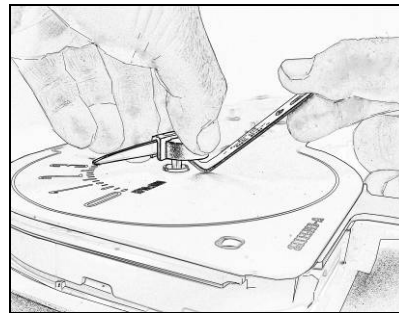

Figure 8
- C. To use the Tool properly; keep the pointer level with one hand then push down on the opposite end of the remover tool and lift the pointer straight up while keeping it level to remove it. The pointer should be pulled straight upwards so that the gauge is not bent and damaged (see figure 8). Repeat these steps to remove all the pointers.